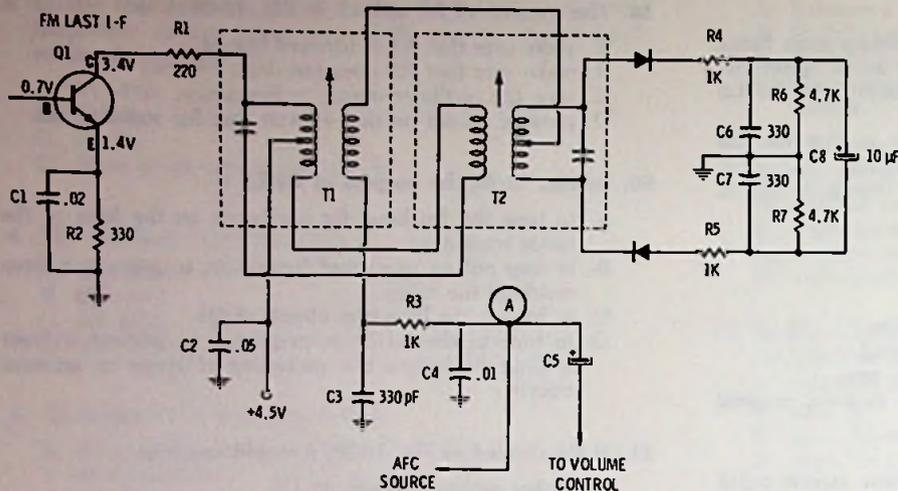

Fig. 13-22. Circuit for Questions 26, 27, and 28.
26. Fig. 13-22 is an fm demodulator circuit. In setting up (aligning) an fm amplifier, a meter is connected between point (A) and ground, and T2 is adjusted for zero voltage output, while feeding a 10.7 MHz (or whatever i-f is used) into the earlier stages of the i-f amplifier strip. The voltage at point (A) should also be at zero, when a station is tuned in correctly, and should swing positive and negative as you tune through the station signal. T1 and previous i-f transformers should be tuned to maximum, with the meter connected across the 10-μF capacitor C8. R3 and C4 in this circuit make up the "de-emphasis" filter, which removes the higher frequencies previously emphasized in the fm transmitter. Pre-emphasis of the high frequencies makes it easier to remove high-frequency noise, while still maintaining a flat response for the audio. In the circuit shown, approximately how much current is Q1 drawing?
27. The circuit in Fig. 13-22 is a
28. The afc voltage at point (A)